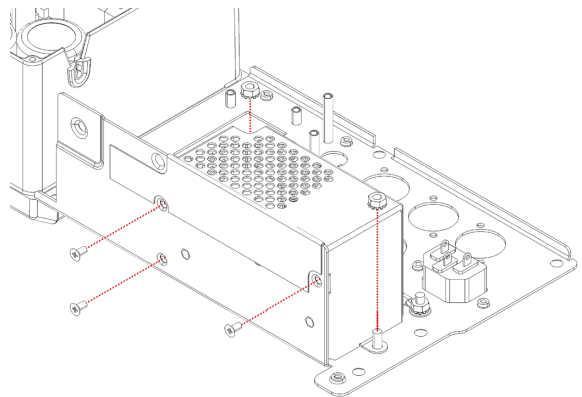

Figure 6.5.1 - EMI shield assembly in amplifier chassis
3. Remove the 3 machine screws that secure the EMI shield as shown in Figure 6.5.1.
4. Remove the 2 nuts from the threaded standoffs using a 7mm wrench or nut driver. See Figure 6.5.1.
6. Fasten the 2 nuts to the threaded standoffs using a 7mm wrench or nut driver. See Figure 6.5.1.
7. Fasten the 3 machine screws to secure the EMI shield to the chassis as shown in Figure 6.5.1.